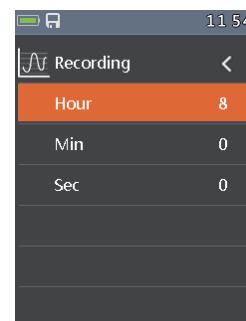

Fig134
- (Fig134)Setting of recording duration, from 1min to 9h:59min.